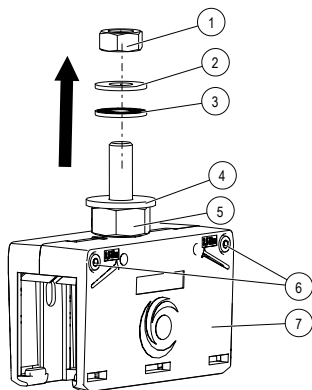

Fig. 10: Loosen upper screw connection of hanger clamp.
- Loosen the upper screw connection of the hanger clamp, consisting of a washer (Item 2), wedge lock washer (Item 3) and M10 hexagonal nut (Item 1) with an open-end wrench SW 17 (see Fig. 10).